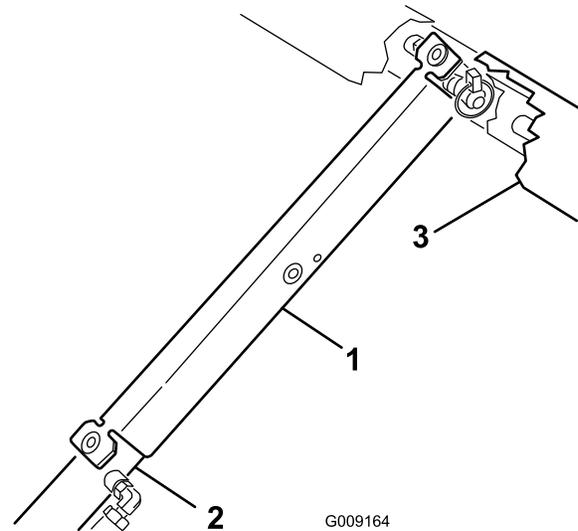

Figure 32
3. Push the bed support onto the cylinder rod, ensuring that the support end tabs rest on the end of the cylinder barrel, and on the cylinder rod end (Figure 32).